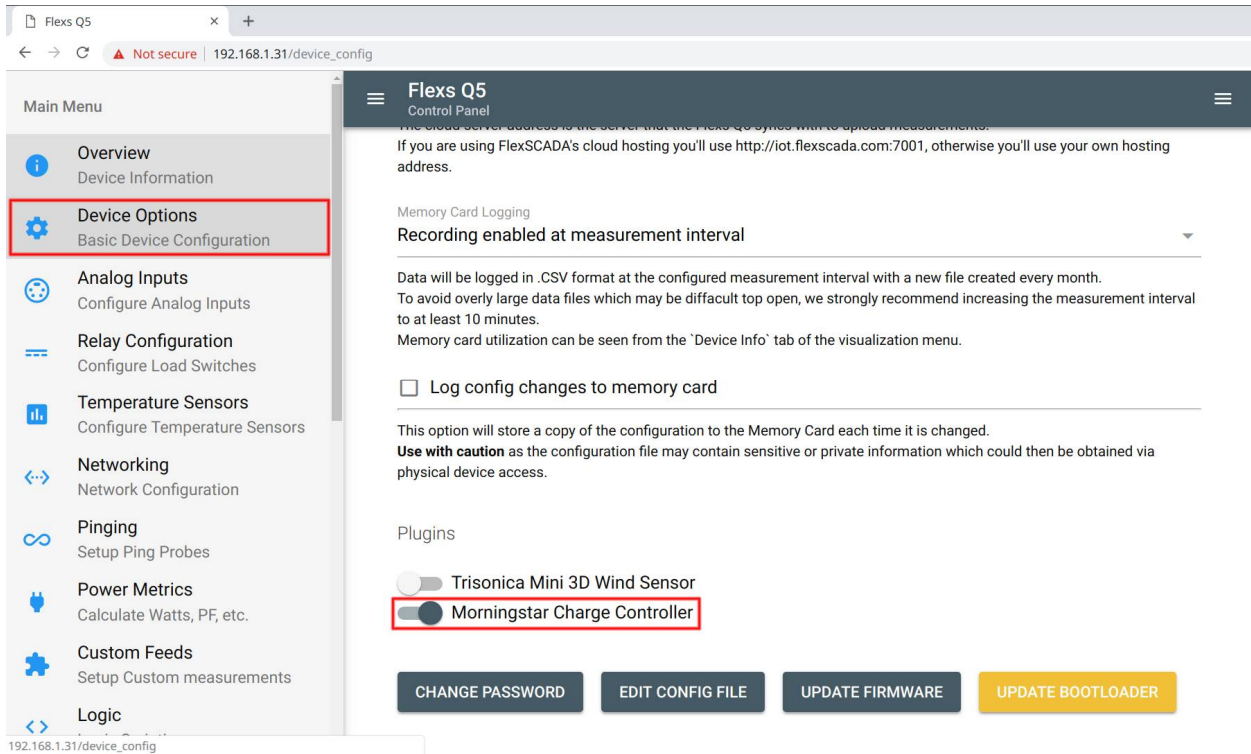

Figure 3
1. Activate the built-in Morningstar plugin located on the device options tab (*Figure 3*)